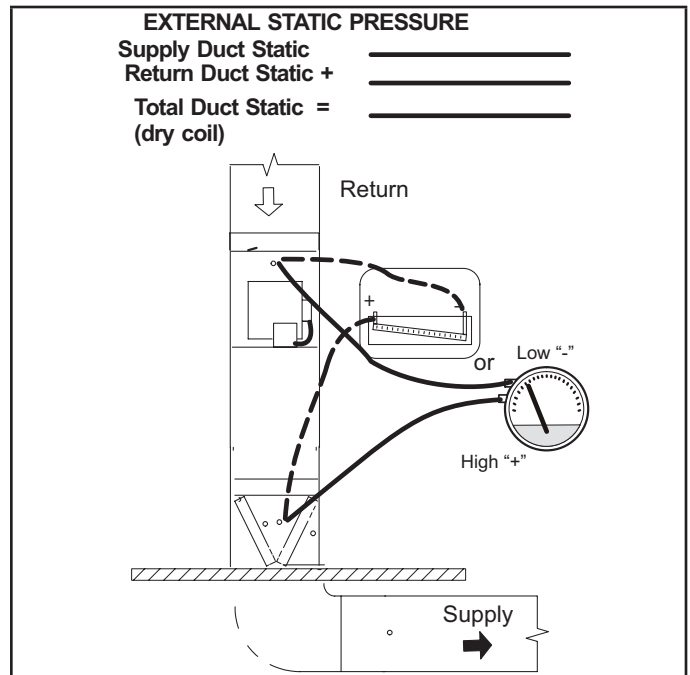

FIGURE 51
- 1 - Tap locations shown in FIGURE 51.